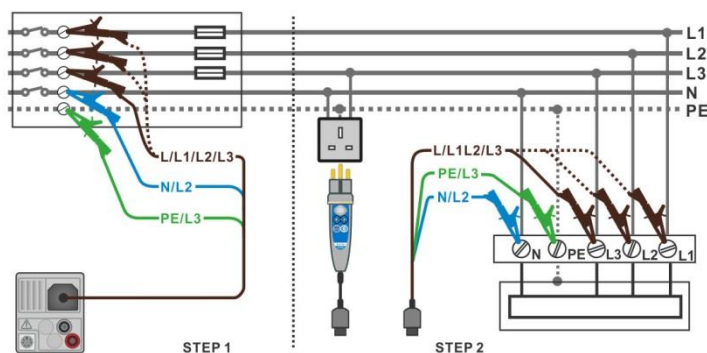

Figure 8.4: AUTO TT measurement
- › Connect test leads or Plug commander to the object under test, see **Figure 8.4**.